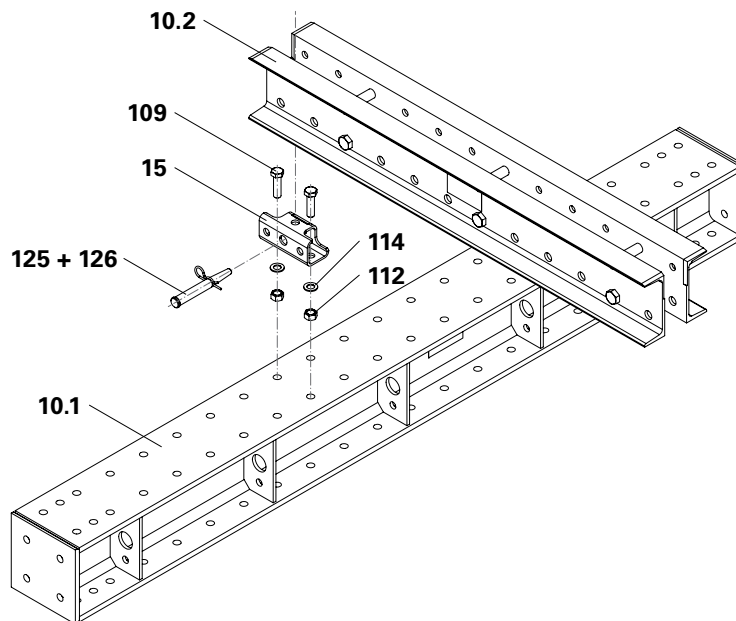

Fig. A5.03
1. Fix the Cross Connector (15) to the Longitudinal Beam VARIOKIT (10.1) at the designated mounting position using bolts M20x60 (109), washers M20 (114) and nuts M20 (112).
3. Fix the the Cross Connector (15) with fitting pins 26x120 (125) and secure with cotter pins 5/1 (126). (Fig. A5.03)